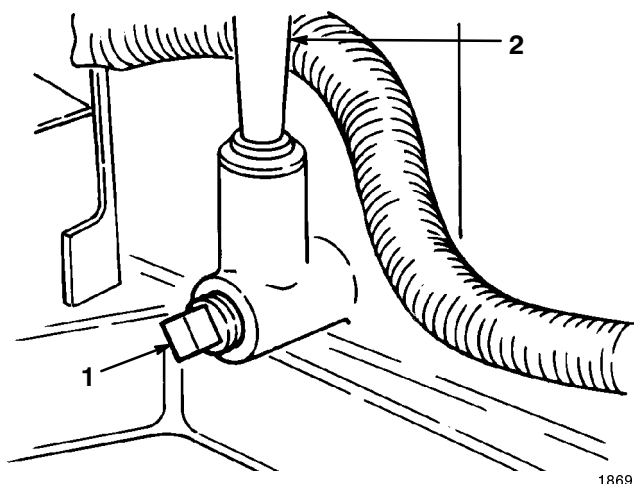

Figure 30
4. Place a pan below the oil dipstick/fill tube and remove the drain plug (Fig. 30).